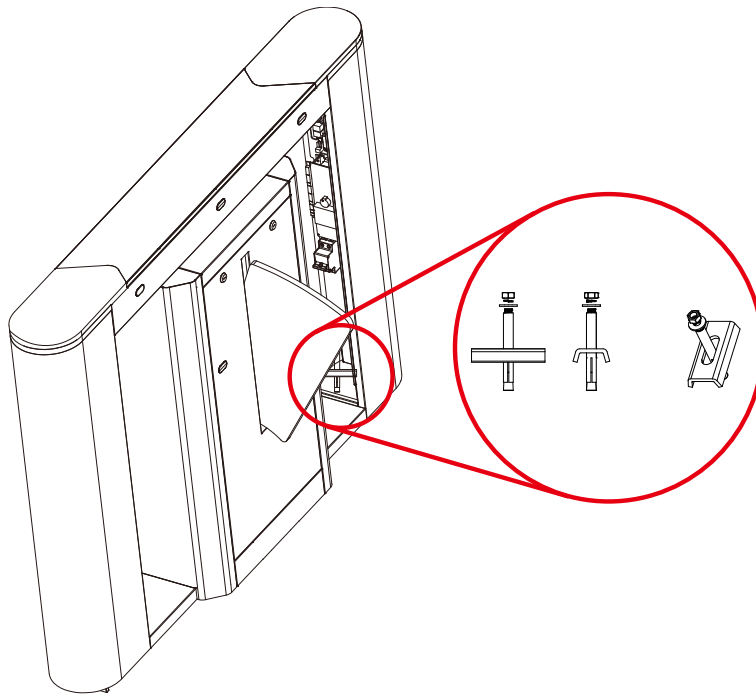

Figure 3-3
**Note:** Eight expansion screws must be completely inserted, as shown in Figure 3-3. Take the FBL6000Pro as an example.